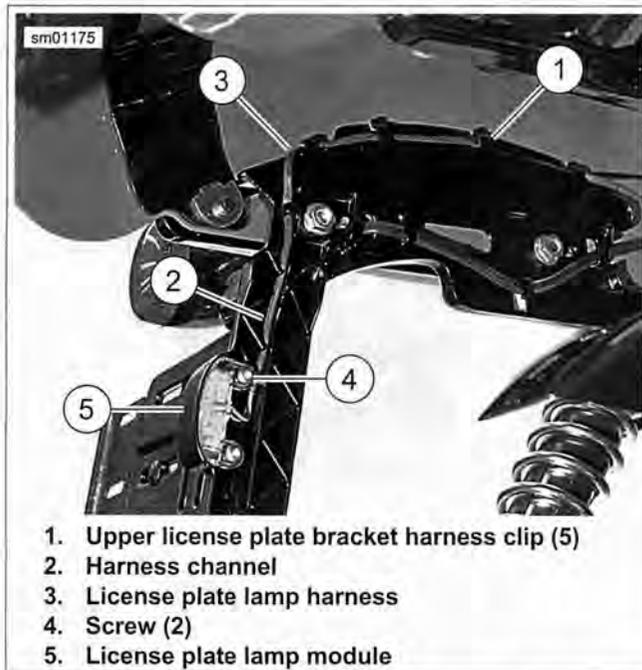

Figure 6-64. Removing/Installing License Plate Lamp Module: XL 883N, XL 1200N/X
8. Remove license plate lamp harness from fender harness clip (1) on left side of fender.
9. See Figure 6-64. Remove license plate lamp harness (3) from upper license plate bracket harness clips (1) and harness channel (2).
10. Remove two screws (4) and license plate lamp module (5) from license plate bracket.
1. See Figure 6-64. Install **new** license plate lamp module (5) into convertible side mount license plate bracket. Secure with two screws (4).
2. Feed license plate lamp harness (3) up through harness channel (2). Insert harness into upper license plate bracket harness clips (1).